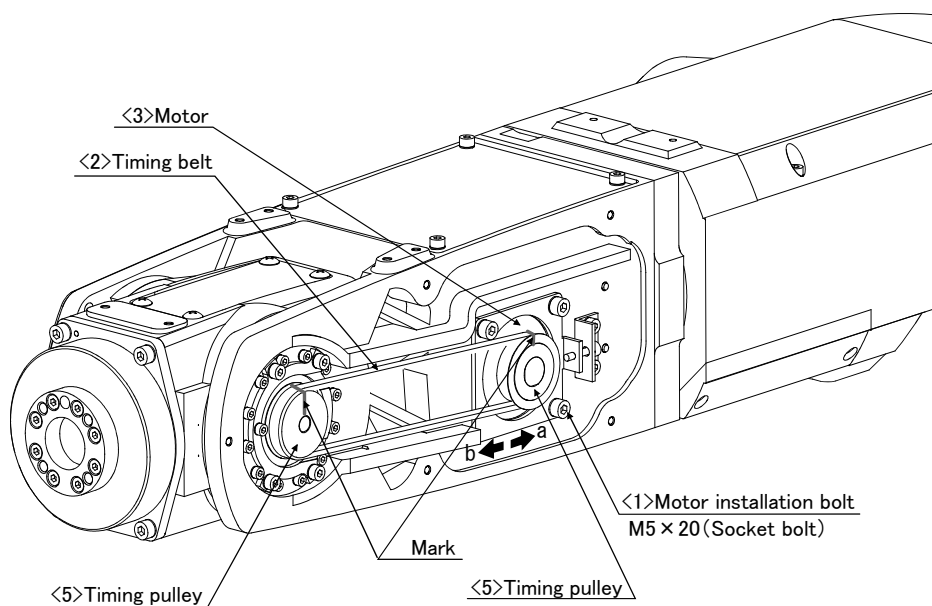

Fig.5-11 : Inspection, maintenance and replacement of J5-axis timing belt
- 3) Move the motor <3> in the directions of the arrows shown in Fig. 5-11, using the tension adjustment screw while checking the tension of the timing belt <2>. Lightly pushing the center of the belt with your finger (approximately 2 N), move the motor to the position where the belt flexes about 2.5 mm.
- 1) Fig. 5-11 shows the methods for inspecting, adjusting and replacing the timing belt.
- 5) Make marks on the timing belt <2> and timing pulleys <4> and <5> with a felt-tip pen as shown in Fig. 5-11 so that the engagement of the timing belt <2> and timing pulleys <4> and <5> does not deviate.
- 9) Refer to steps "3)" to "6)" in "■ Adjusting the J5 axis timing belt" and "(3) Timing belt tension" to adjust the tension.